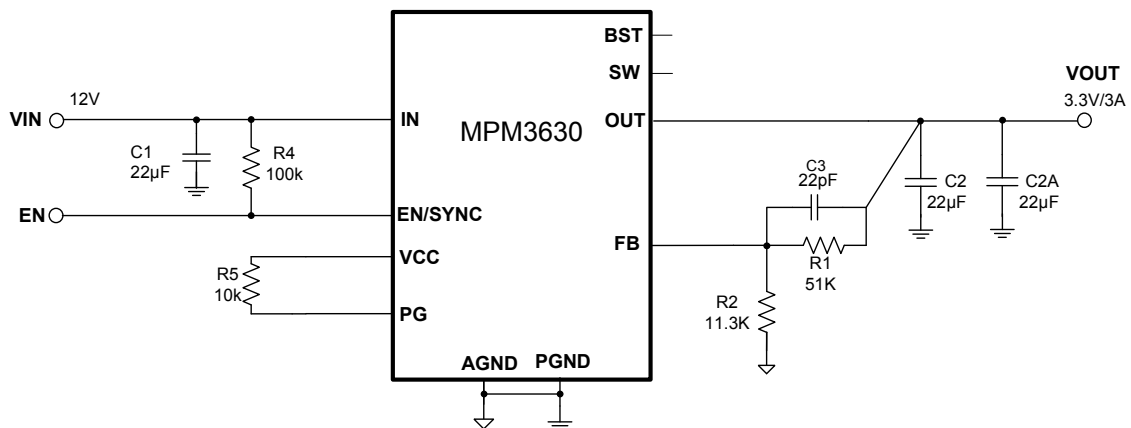

Figure 14: $V_o = 3.3V$, $I_o = 3A$
- 9) The recommended layout is based on the Figure 14 Typical Application circuit.
The detailed application schematic is shown in Figure 14. The typical performance and circuit waveforms have been shown in the Typical Performance Characteristics section. For more device applications, please refer to the related Evaluation Board Datasheets.